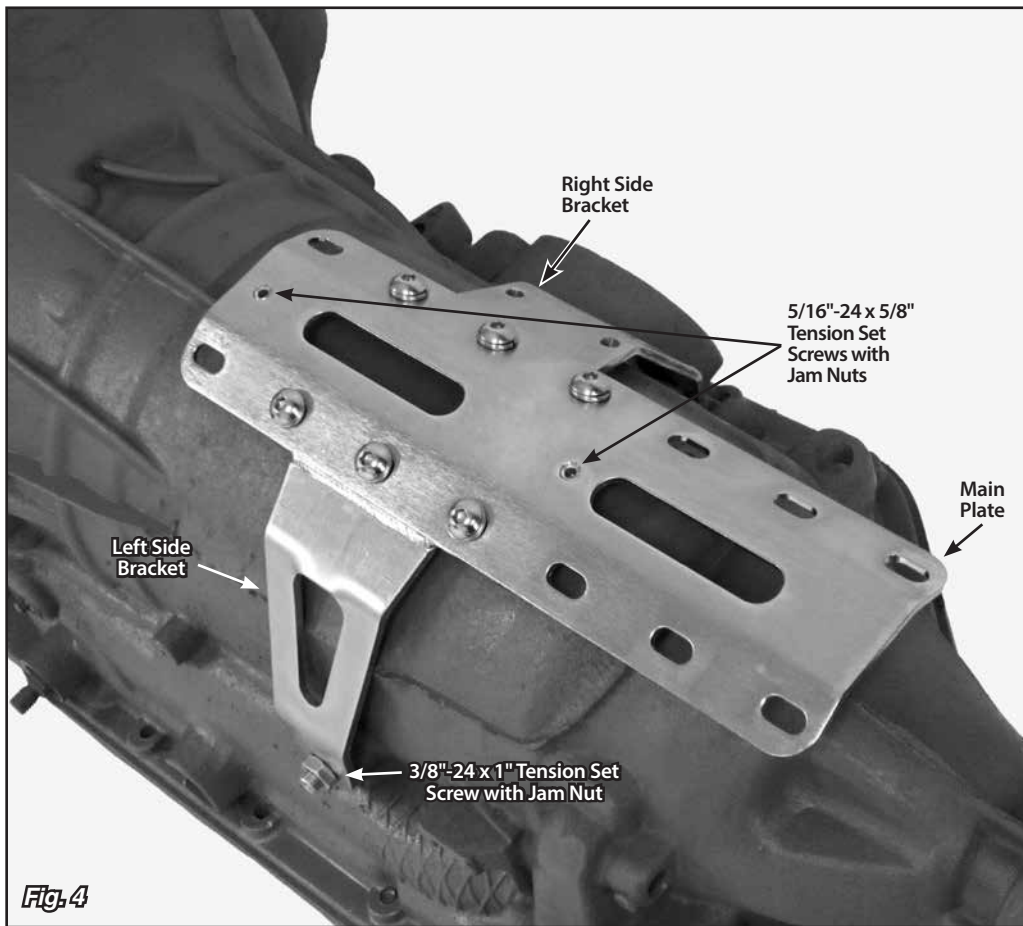

Fig. 4
**Step 5:** Set the mounting bracket assembly into place on top of the transmission. **Fig. 4** Install the 3/8"-24 x 1" tension set screws through the side brackets into each side mounting button, but do not tighten.